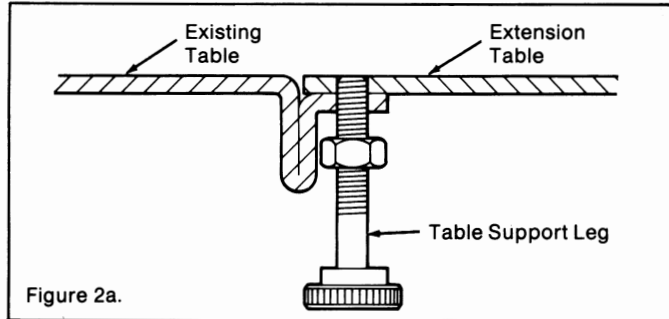

Figure 2a.
2. Thread a 1/4 - 20 nut onto each of the table support legs, down to where approximately 3/8" of thread is exposed beyond the nut (figure 2a).